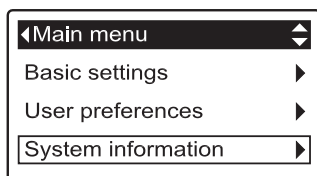

FIG. 49
1. From any of the rolling status screens, press the SELECT (O) button to display the **Main menu**.
2. Press the DOWN (▼) button to scroll through the menu options until **System information** is highlighted (See Figure 49).